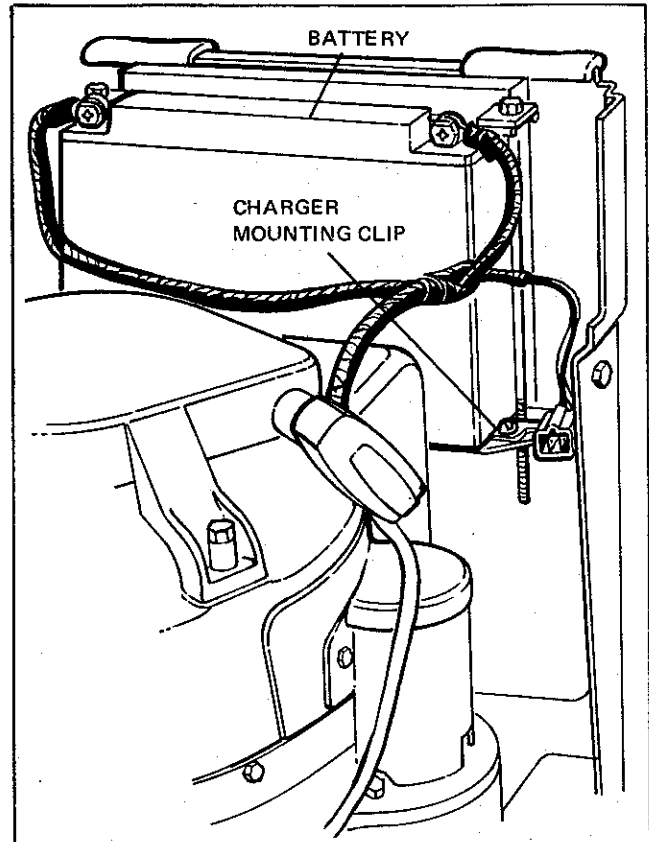

Figure 4
4. Install the charger mounting clip to the battery bracket with the round head machine screw, lockwasher and nut provided as shown in Figure 4.